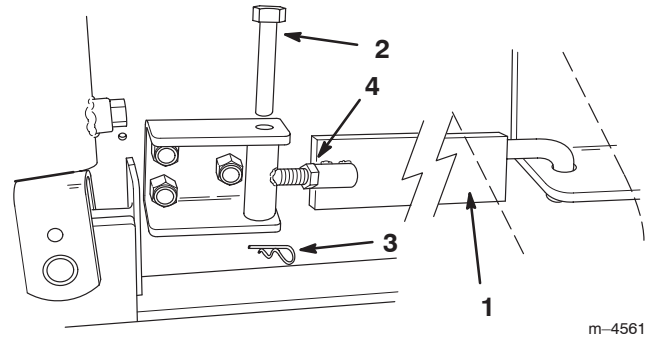

Figure 12
- If you are installing the backhoe on a Dingo 200/300 series traction unit, install the side bars on each side as illustrated in Figure 12. The decal on each side bar must be visible when installed.
Important If the bars do not fit snugly, remove them, loosen the jam nut, and thread the compound side bar together or apart as needed to ensure that they fit as tight as possible (Fig. 12). Tighten the jam nut when finished.
- A. Remove the hairpin cotters and pins securing the side bars and remove the side bars (Fig. 12).